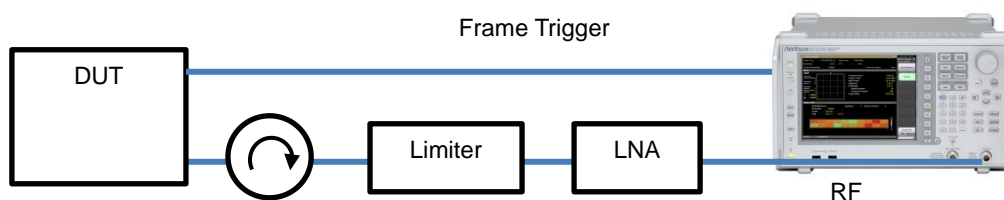

Fig. B-2 Transmit Off Power Measurement Path
8. Press [F4] Limiter Mode Offset Value to set the gain of the transmit Off power path in Fig. B-2 (from DUT output connector to signal analyzer RF input connector). For a total gain of 10 dB, set -10 dB.
17. Set the transmit Off power measurement path shown in Fig. B-2.